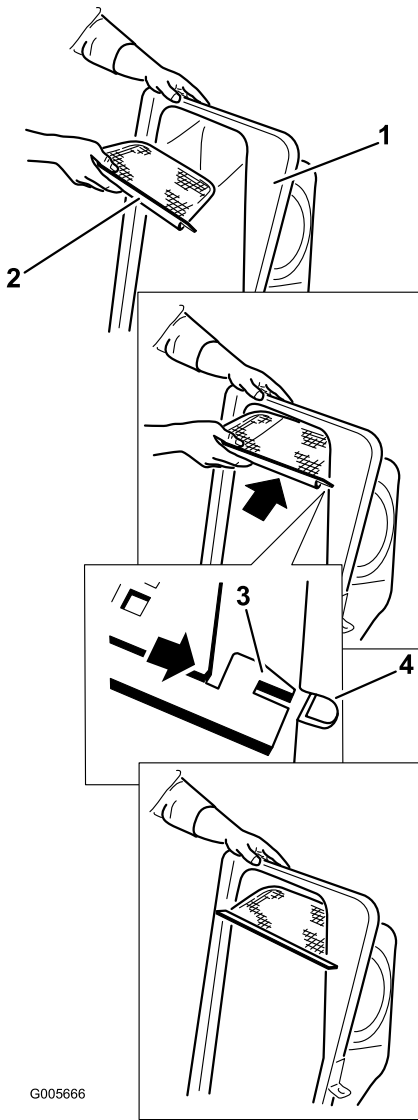

Figure 12
2. Install the screen as shown in Figure 12 and that it slopes down toward the collection bags.